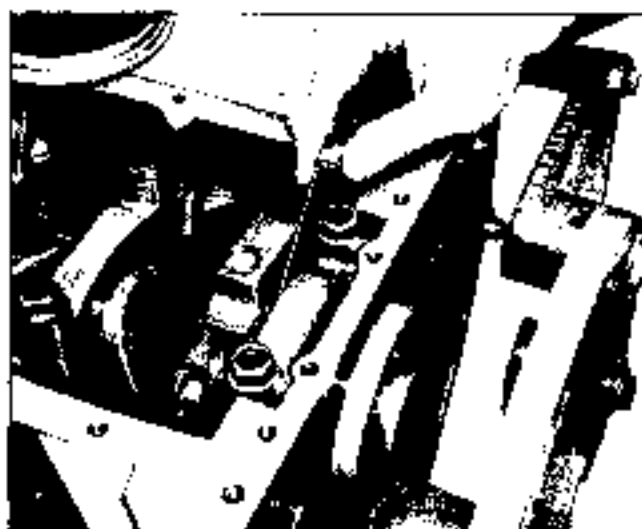

Fig. 6-52 Checking Crankshaft End Play
6. Check crankshaft end play with feeler gauge at No. 7 main bearing (Fig. 6-52). If end play is over .006, replace bearing.